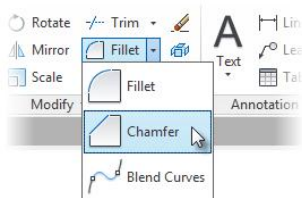

FIGURE 5.61: Starting the CHAMFER command from the Modify Ribbon panel
6. Start the CHAMFER command from the Home tab > Modify panel. If the Chamfer tool isn't visible on the Ribbon, click the down arrow next to the Fillet tool, as shown in Figure 5.61.